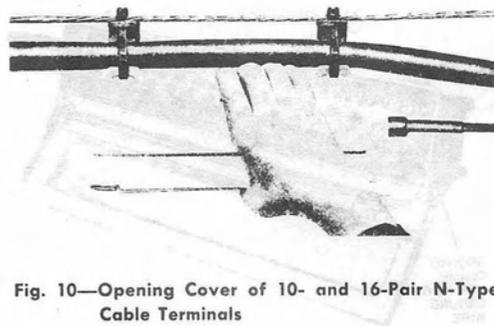
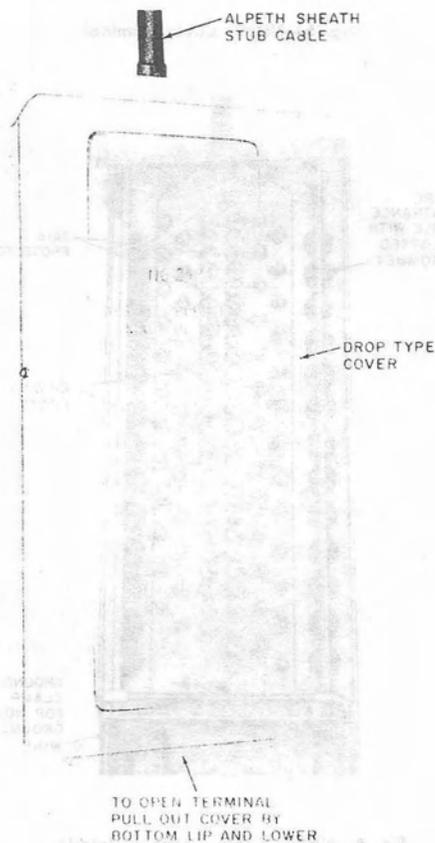

Fig. 10—Opening Cover of 10- and 16-Pair N-Type Cable Terminals
Fig. 11—Opening Cover of 25-Pair N-Type Cable Terminals
2.05 Covers of the 10- and 16-pair N-type cable terminals are opened by grasping as shown in Fig. 10 and pulling the bottom edge outward with the thumb while the fingers press against the top edge. Covers of the 25-pair terminals are opened as shown in Fig. 11.